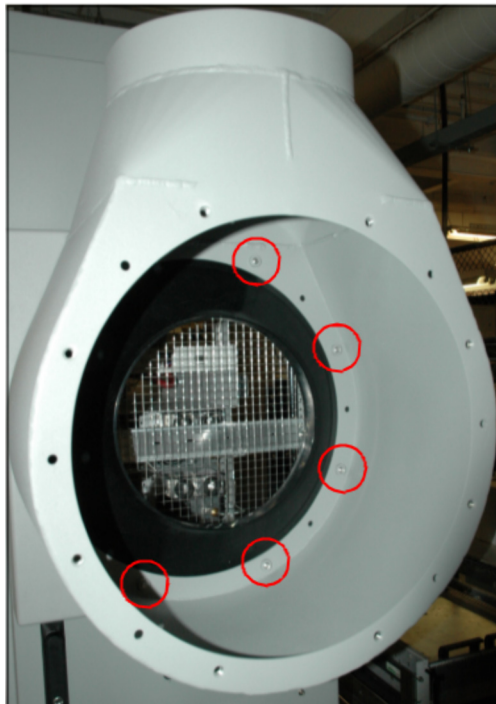

Figure 15: Rotate Housing of Lower Impeller
4. Remove the bolts from the inside of the housing. See Figure 15.
6. Insert the bolts that secure the housing to the door frame. There are eight (8) bolts that secure to the pems of the impeller housing.